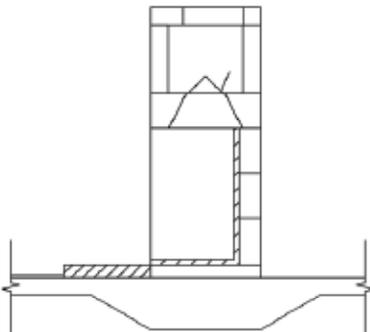

FIGURE 44
2. Slab-on-grade foundations, thickened and reinforced: for additional load carrying. (Figure 44)